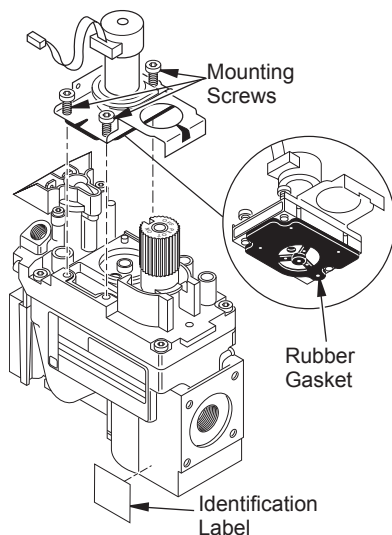

Figure 59 - Installing Pressure Regulator Assembly
2. Insure that rubber gasket is properly positioned on new pressure regulator assembly. Install LP pressure regulator assembly to valve using the new mounting screws supplied with the kit. Tighten screws securely (approximately 25 in-lbs.) (see Figure 59).
3. Install identification label enclosed with gas valve regulator to valve body, where it can easily be seen (see Figure 59).